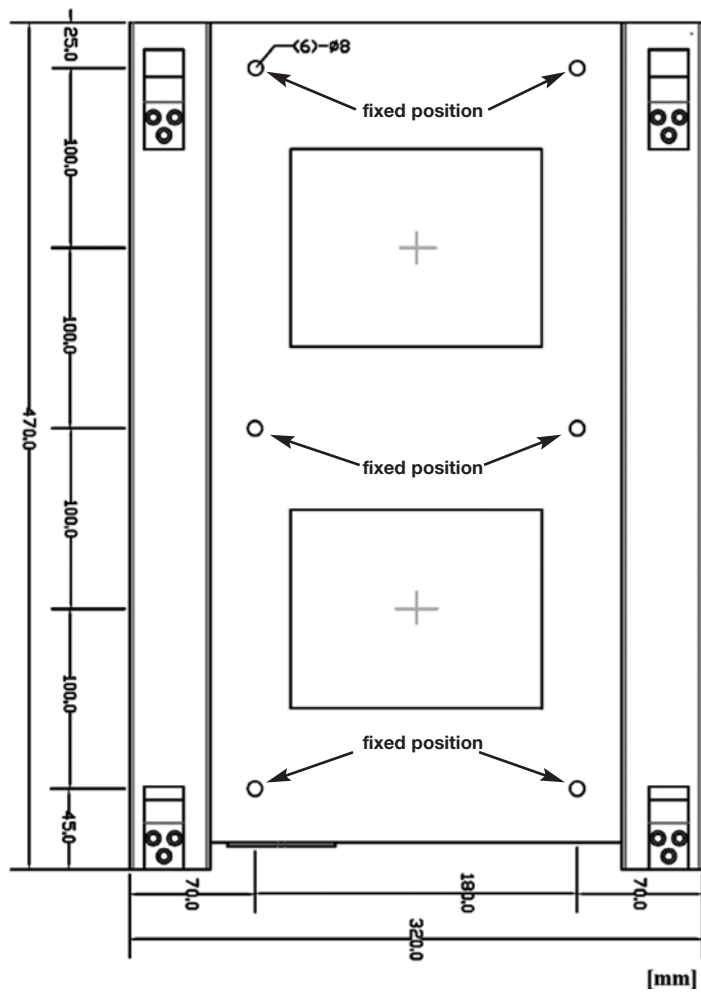

Figure 8 Metal strap of Inverter
07. The inverter is mounted on the back side with the metal strap. (Figure 8)